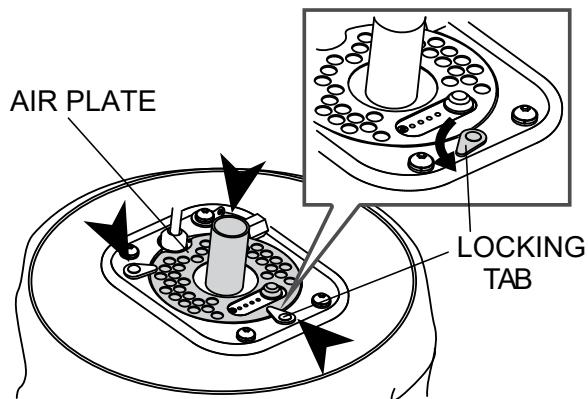

Figure 38. Releasing Air Plate
2. Turn all three locking tabs outwards to release the air plate (Figure 38).